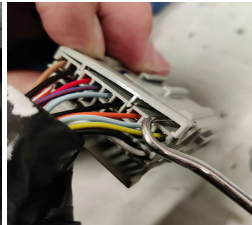
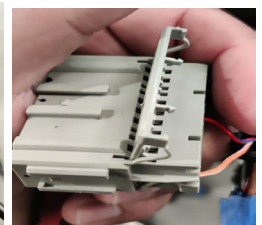

figure 9
figure 10
6. Using a small flathead screw driver or a pick, open up the locking tab on the back side of the connector (figure 9). Slide the locking tab back and lift it up (figure 10).